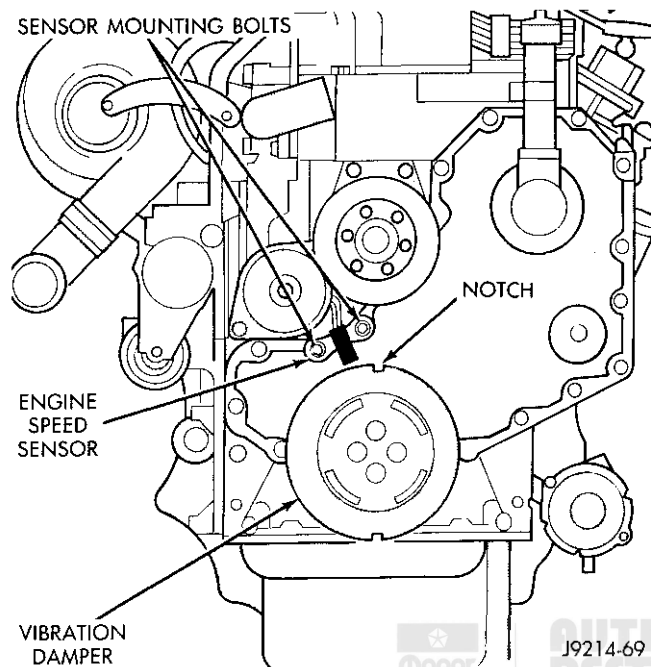

Fig. 32 Engine Speed Sensor—Diesel
The engine speed (rpm) sensor is located on the front of engine (Fig. 32). Spacers located behind the sensor are used to position sensor over the vibration damper.
- (1) Disconnect the speed sensor pigtail harness from the main engine wiring harness near the front/top of engine.
- (2) Remove the clip bolts from the sensor pigtail wiring harness.
- (3) Remove the two speed sensor mounting nuts (Fig. 32).
- (4) Remove the speed sensor and its mounting spacers from the vehicle.
- (3) Place the feeler gauge between the sensor and the vibration dampener.
- (4) Gently seat (push down) the sensor until it contacts the feeler gauge. **Be sure the sensor is not near either of the notches (Fig. 32) on the vibration damper. If sensor is adjusted at or near these notches, it will be damaged when engine is started.**
- (5) Tighten sensor mounting nuts to 24 N·m (18 ft. lbs.) torque.
- (6) Remove feeler gauge.
- (7) Connect the sensor electrical connector to the main engine wiring harness.